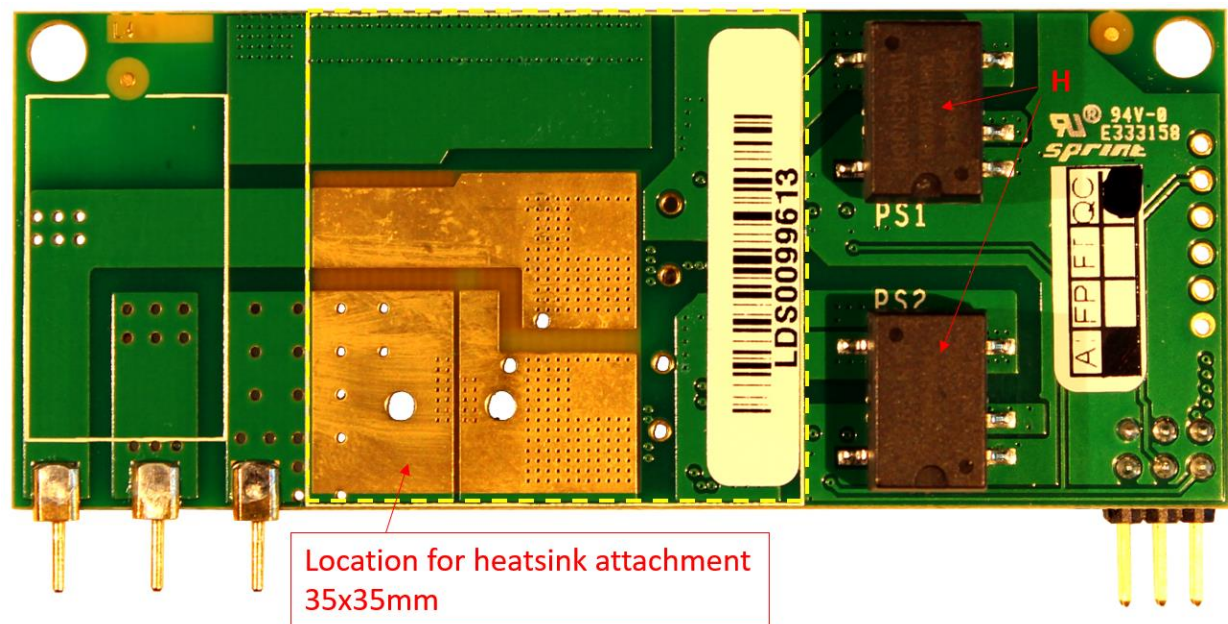

Figure 3 GS66504B-EVBDB bottom side
3. A thermal tape type TIM (Bergquist® Bond-Ply 100) is chosen for its easy assembly. The supplied heatsink has the thermal tape pre-applied so simply peel off the protective film and attach the heatsink to the back of board as marked in Figure 3.